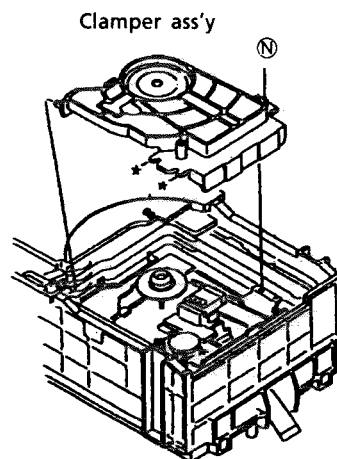

Fig.20
5. Remove a screw ⑦ securing center of the clamber ass'y. (See Fig. 20)